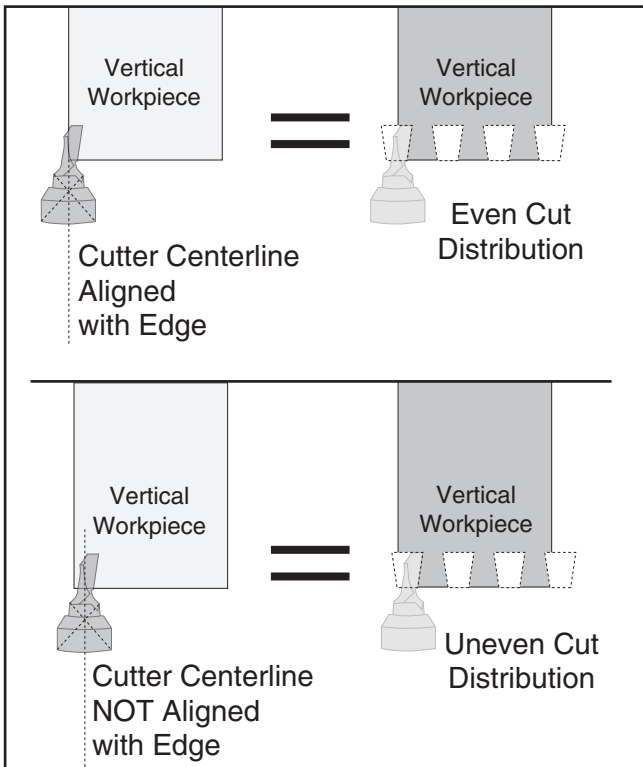

Figure 27. Aligning cutter start location with the vertical workpiece.
- Align the left-hand edge of the vertical workpiece with the centerline of the cutter when the tracer pin is in the "in" or cutting position. This position will make the first cut in the vertical workpiece half the width of the cutter. **Figure 27** illustrates this concept.